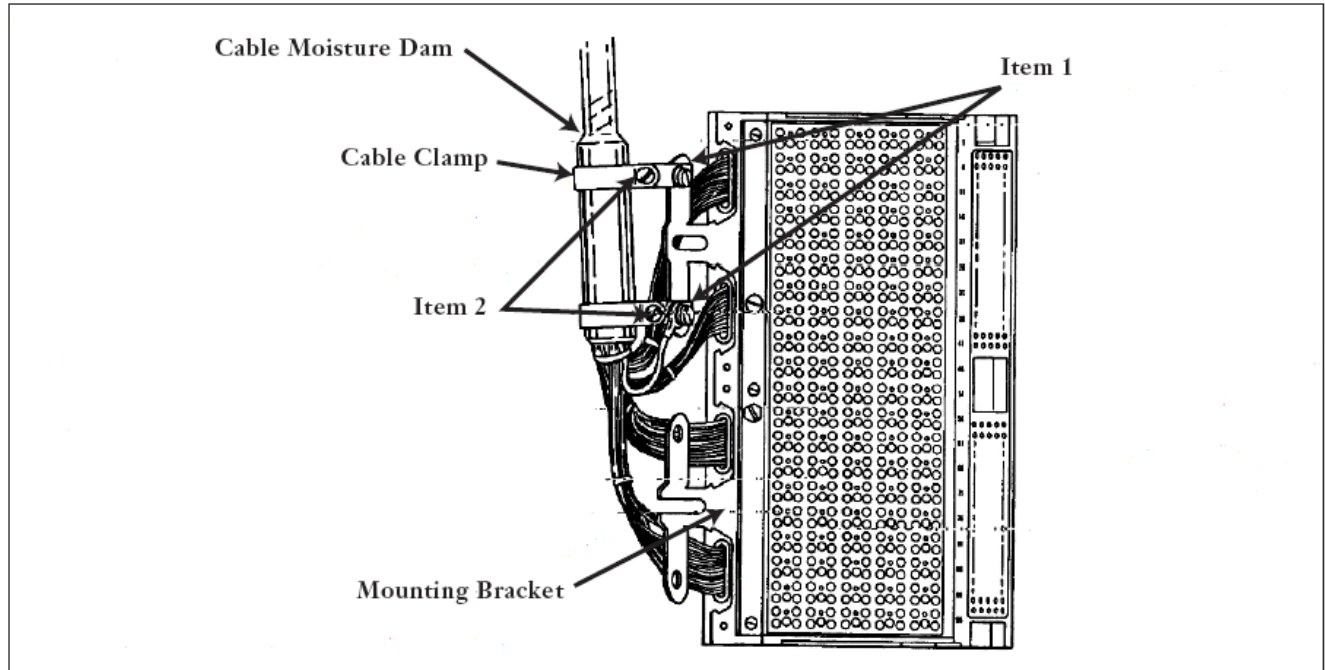

Figure 4
4.4 Changing the C-388 & CG-388 Connectors from "Stub-down" to "Stub-up" (stubbed connectors only): Although the C-388 & CG-388 main frame connectors are available in the "stub-up" position, it may be necessary to change an existing "stub-down" to "stub-up" if one is not available. If this is the case, use the following procedure (Figure 4):
- Remove the two screws (item 1) attaching the cable clamps to the lower section of the connector mounting bracket.
- Remove the two screws, washers, and nuts (item 2) holding the cable clamps on the cable stub moisture dam plug.